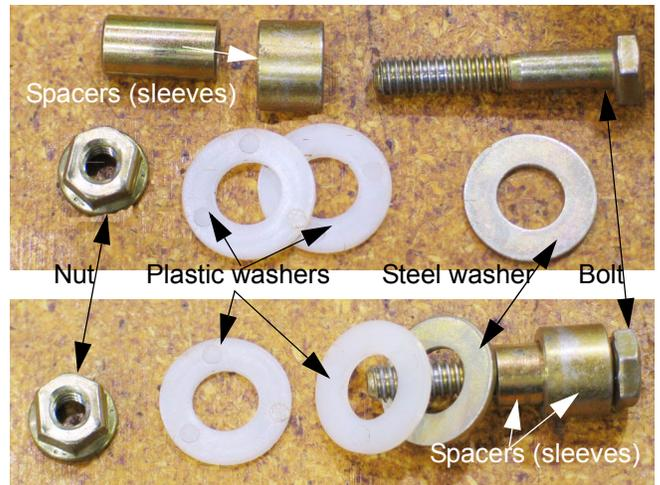

Figure 21.35
21.35. A sleeve within a sleeve creates a shoulder bushing. A steel washer rides on the shoulder to support a nylon washer that rides outside of the control housing. A second nylon washer rides between the steering lock rod and the inside surface of the control housing. See Figure 21.35.